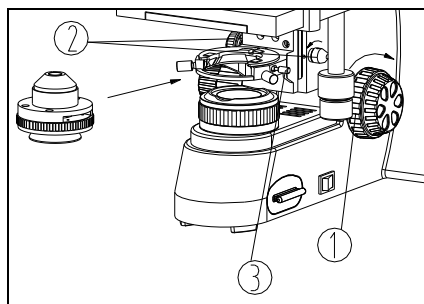

Fig. 4
1. Rotate the coarse focusing knob ① to raise the stage to the highest position (see Fig. 4).
2. Rotate the condenser up-down knob ② to lower the bracket of condenser to the suitable position.
3. Fully loosen the condenser lock-screw ③.
5. Tighten the lock-screw ③ of condenser, then raise the condenser with the up-down knob to the highest position.